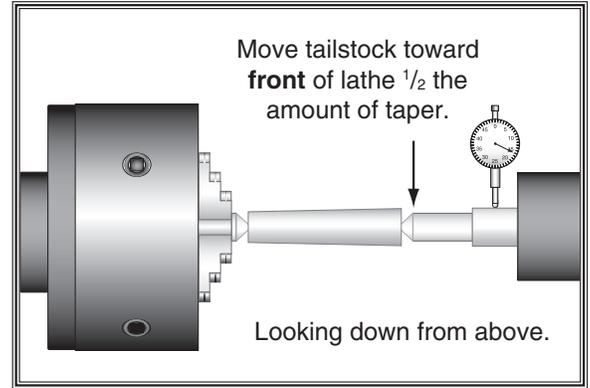

Figure 19. Adjusting for tailstock end taper.
- If the stock is thinner at the tailstock end, the tailstock needs to be moved away from the operator by half the amount of the taper (**Figure 19**).